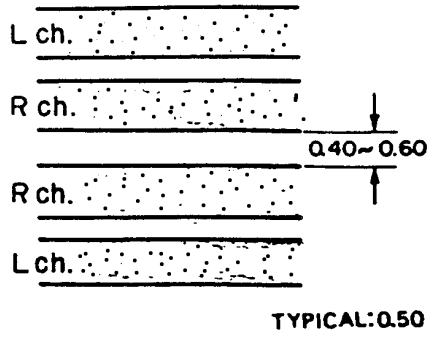

Fig. 2
- (1) Load the Reference CrO2 Tape (DA09009A), set the Test Tone SW. to On position, the Tape Selector SW. to the Tape position. Set to record mode and adjust record head azimuth alignment screw D until the alignment beacon started flickering alternately.
- (2) Aligning Step (1) as above, align the screw F to obtain maximum reading of both channels.
- (3) Check to insure the following.
- b. Immerse the recorded tape into a magnetized developing solution. In turn, check to insure that the recording head tracks across the center are separated by space of 0.4 to 0.6mm typically 0.5mm as illustrated in the Fig.2.